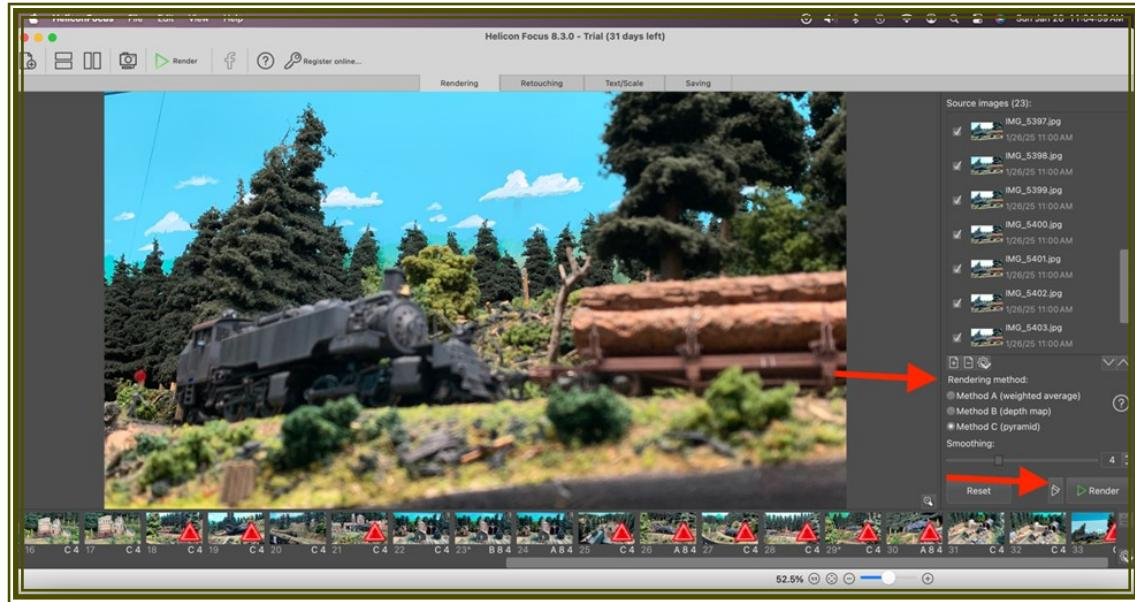

Figure 4 Images Loaded in Helicon Focus
- The “Open Images” command will open up a familiar Finder window where you can navigate to wherever the images you just uploaded reside. Then select all of them and click “Open”. This will cause thumbnails of the images to appear on the right side of the Helicon Focus screen, and one of the images (maybe the first one?) will appear large on the screen. Reference Figure 4. In this example image the tree at left is in focus and most of the rest of the image is not.
- Then it's time for the “magic”. In Figure 4 note the “Render” button at lower right. Clicking this button will cause the program to do the stacking and produce one integrated image from the 15-25 or so images that were loaded. Note the “Rendering method” selection right above the “Render” button. There are three ways to do the rendering: (A) weighted average, (B) depth map, and (C) pyramid. I don't know what they mean, but I found that they can make a difference. I found that the default Method B gave me strange gray borders around the clouds when my backdrop with its painted clouds appeared in an image, but that the unwanted stuff disappeared when I selected Method C. So if the result isn't perfect, try a different rendering method. The rendering process only takes a few seconds.